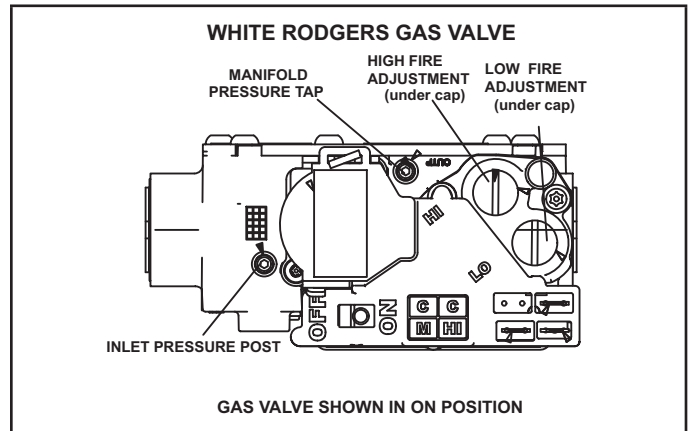

FIGURE 52
Gas Valve Operation (FIGURE 52)
- 6 - Move gas valve switch to **OFF**. See FIGURE 52.
- 8 - Move gas valve switch to ON. See FIGURE 52.
An inlet post located on the gas valve provides access to the supply pressure. See FIGURE 52. Back out the 3/32 hex screw one turn, connect a piece of 5/16 tubing and connect to a manometer to measure supply pressure. See TABLE 28 for supply line pressure.
A manifold pressure post located on the gas valve provides access to the manifold pressure. See FIGURE 52. Back out the 3/32 hex screw one turn, connect a piece of 5/16 tubing and connect to a manometer to measure manifold pressure.
- 5 - If necessary, make adjustments. FIGURE 52 shows location of high fire and low fire adjustment screws.